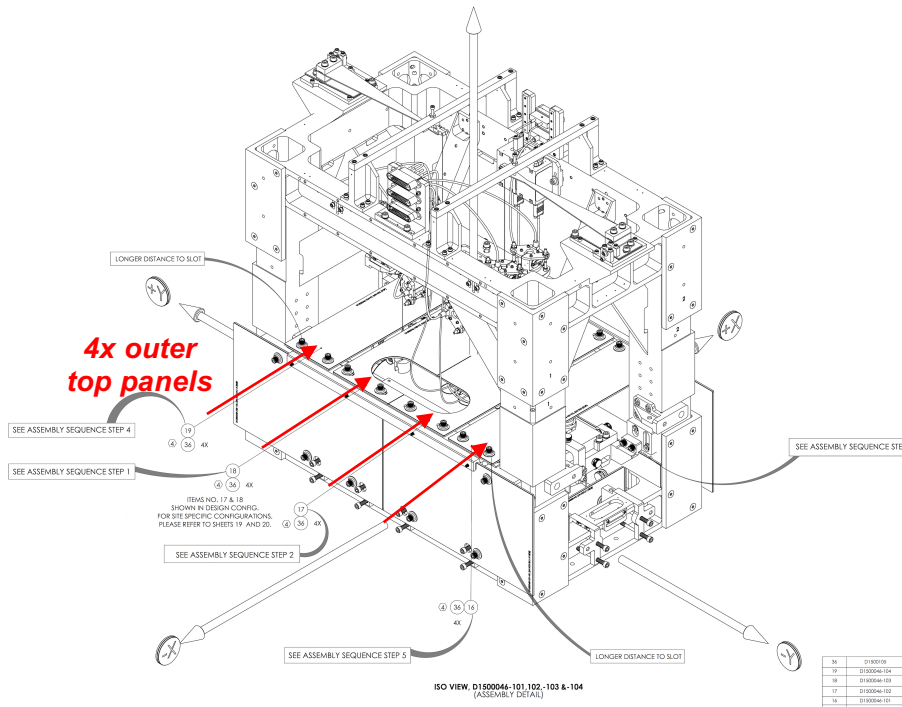

Figure 3: Outer top glass panels (D0900295 Sheet 16)
- Remove four top glass panels (D1500046-101/102/103/104) (Figure 3). The screws are designed not to fall from the closed slot of the glass plates (i.e. they are captive).